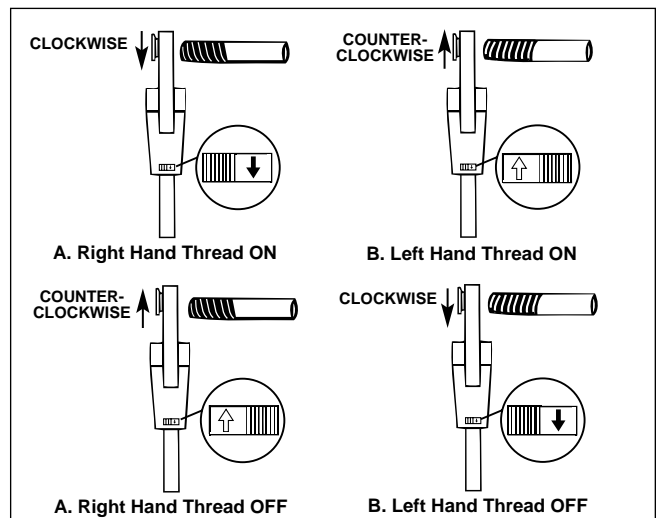

Figure 6 – Direction Change Switch/Die Head Orientation
5. Position the directional switch for the desired right or left hand thread (Figure 6).